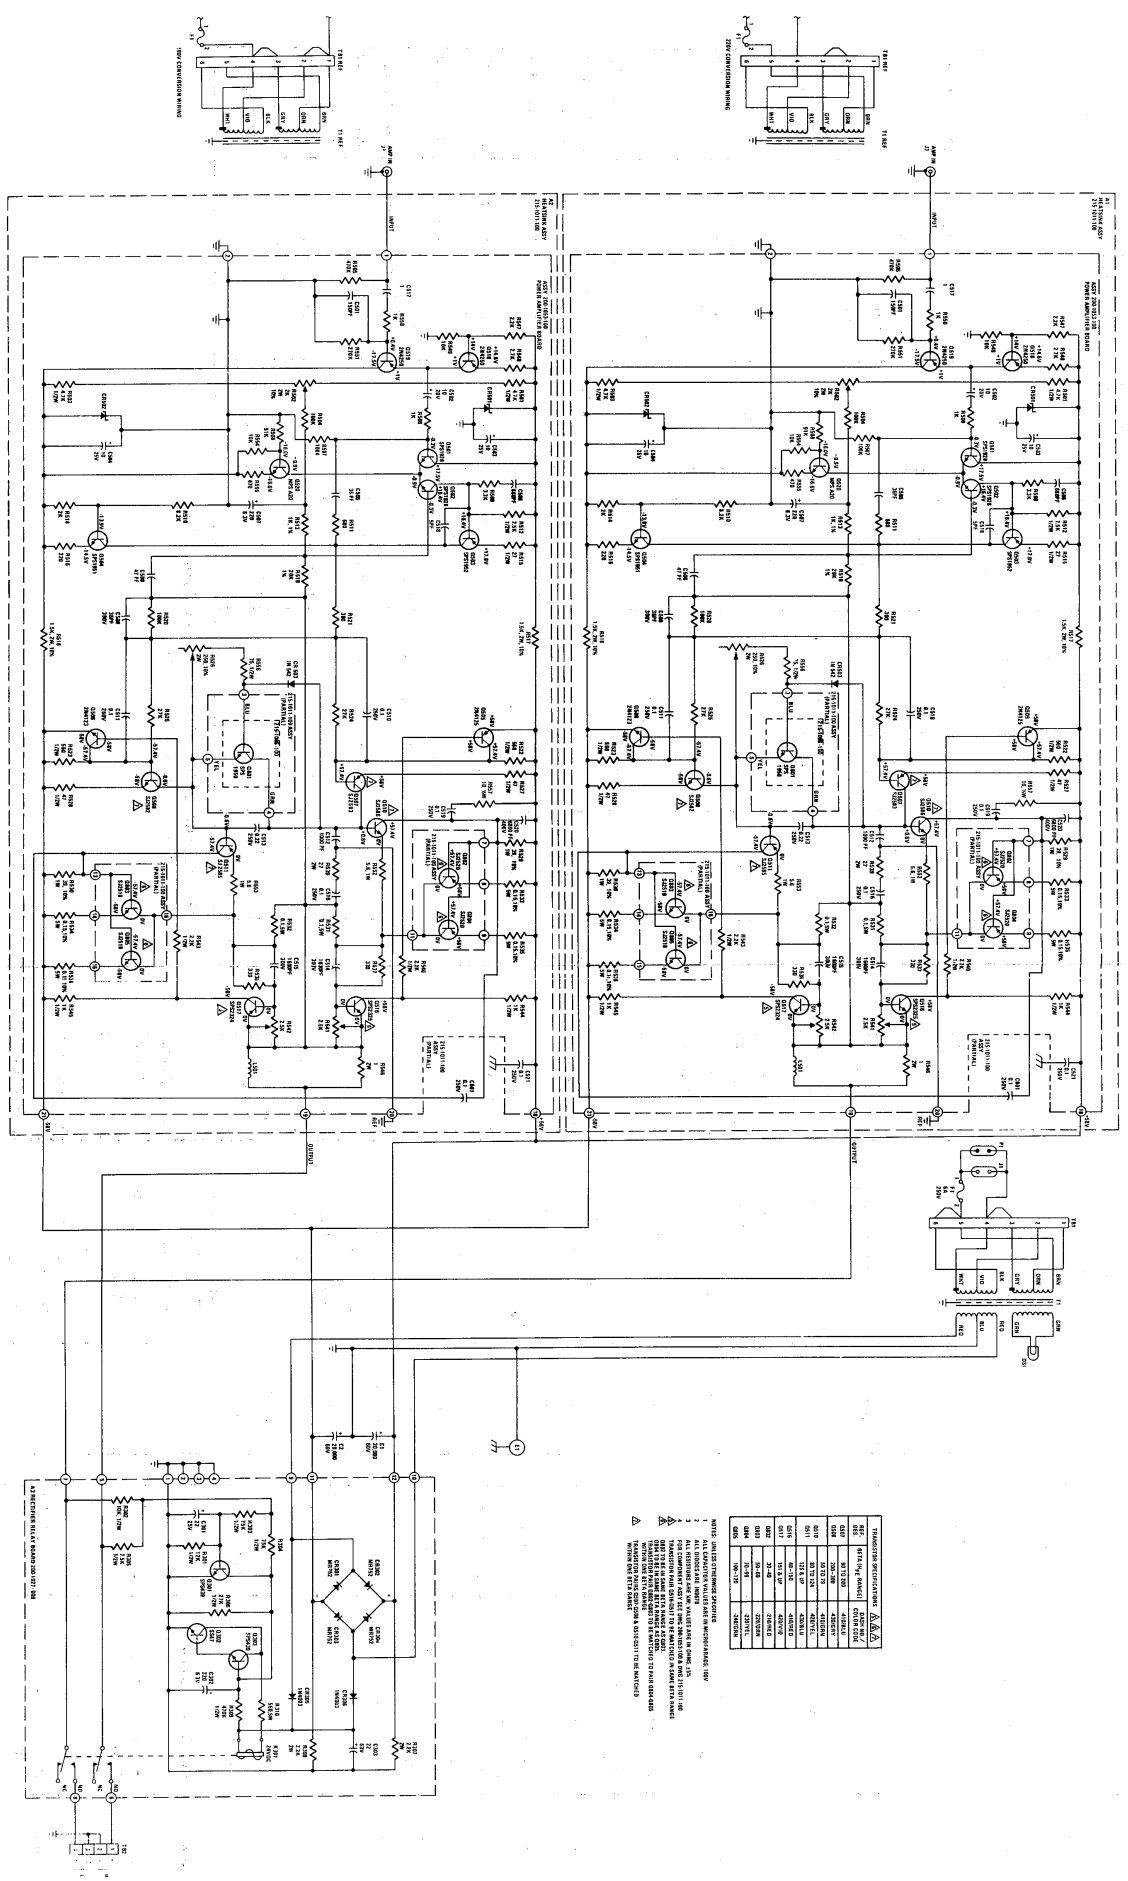

FIGURE 11. MODEL 240 SCHEMATIC
\*For applicable dash number, see Transistor Specification Chart on unit Schematic (Figure 11).
**Pages 20 and 21** — Replace Figure 11 (Model 240 Schematic) with Figure 11 contained herein.